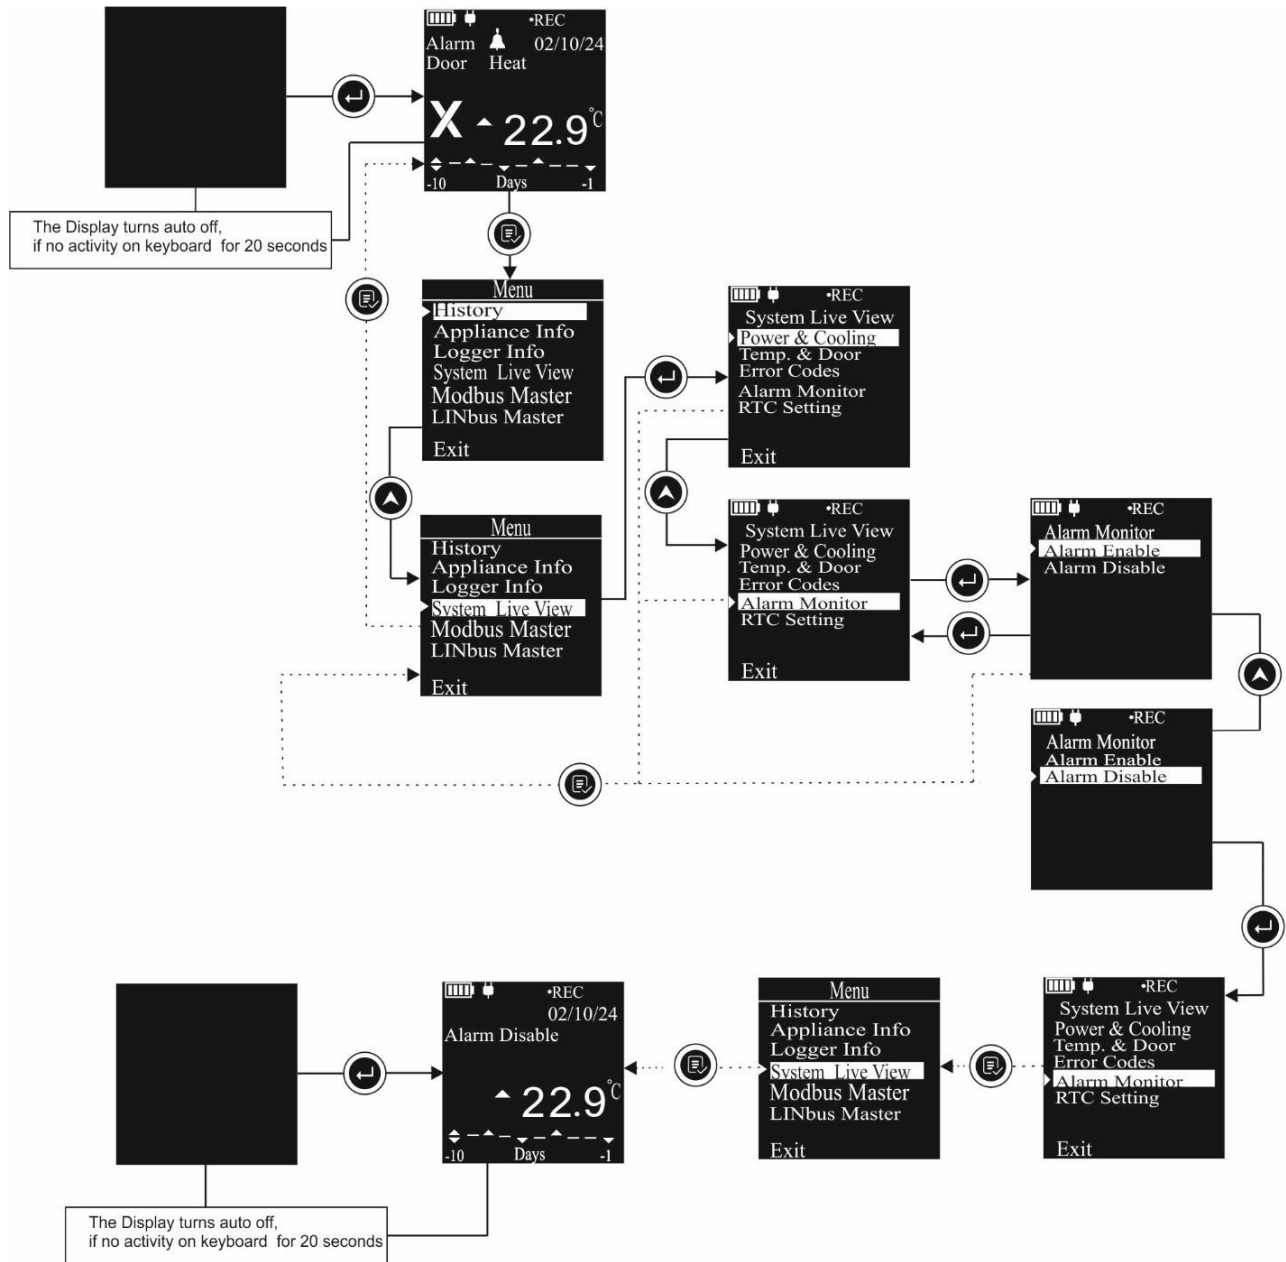

Figure 20 Alarm Monitor selection Menu
- Alarm Monitor:** When an appliance is out of service or no longer storing vaccines, alarms should be disabled to save energy. The user can enable or disable alarm monitoring through the menu, as shown in figure 20. If "Alarm Disable" option is